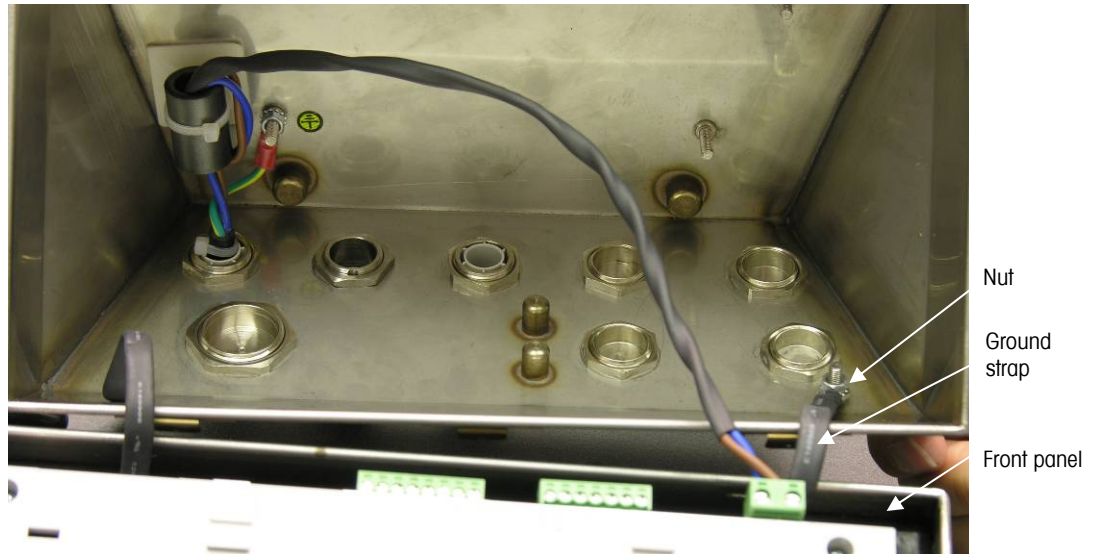

Figure 2-9: Reversing the Cover
- C. Carefully rotate the front cover 180 degrees and reattach the two grounding straps to the two studs near the grip bushings using the two nuts removed in the previous step as shown in Figure 2-9. Tighten the two nuts.